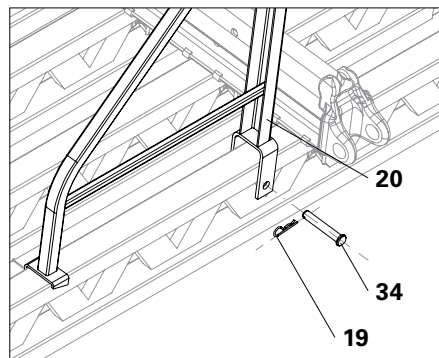

Fig. B1.01a
1. Remove Pins $\varnothing 20 \times 120$ (34) from the Platform Bracket VARIO VBK 90 (20).
2. Place the Platform Bracket VARIO VBK 90 (20) on the girder using the top connecting claw and secure with Pins $\varnothing 20 \times 120$ (34) and Cotter Pins 4/1 (19). (Fig. B1.01a)